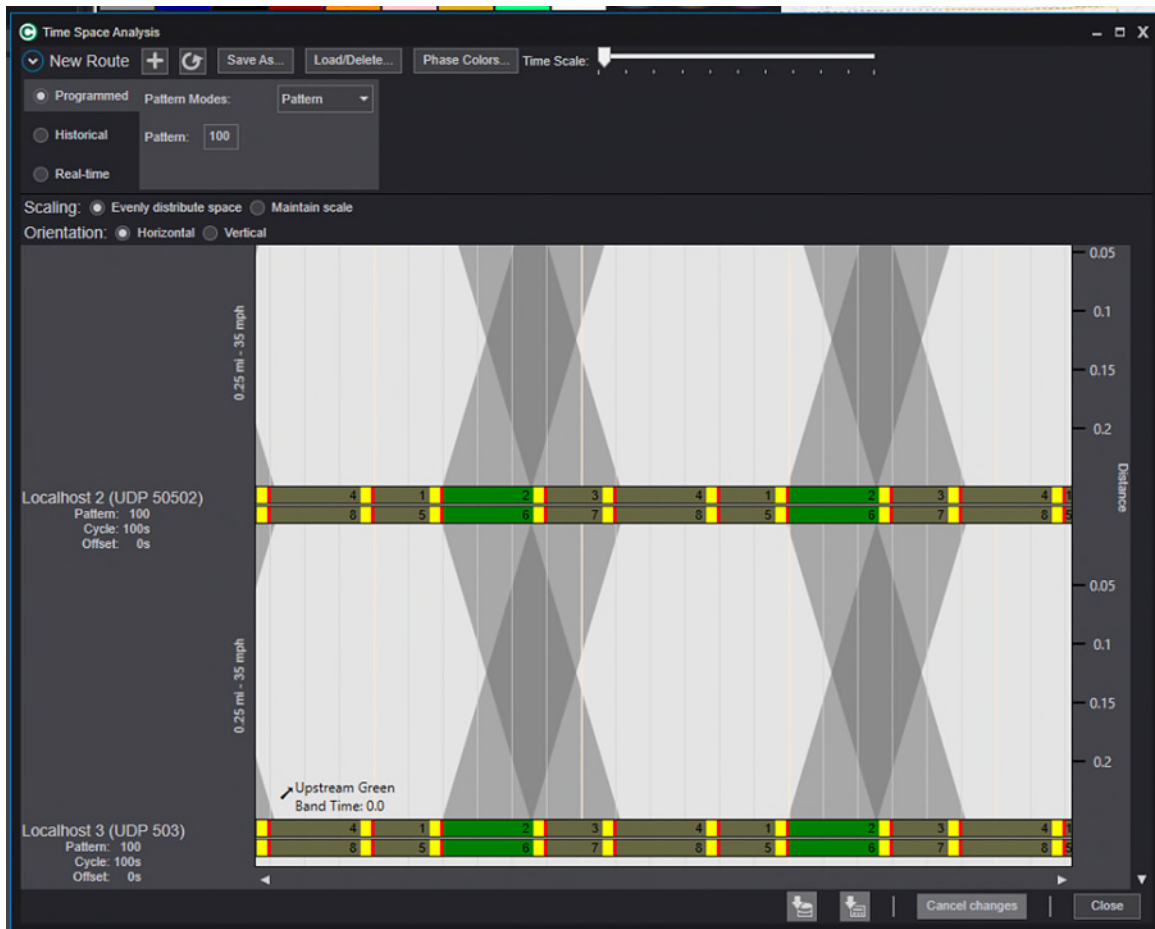

Figure 126: Time space analysis results with diagram.
4. Click the **+** symbol next to New Route to open the Entity Selection window. Select the intersections upon which to conduct the analysis. Note that entire corridors, individual intersections, or groups of intersections can be selected. It is important that intersections used are adjacent and consecutive to one another for the most accurate analysis. Figure 126 shows a sample corridor of 3 selected intersections loaded into the Time Space Analysis window.